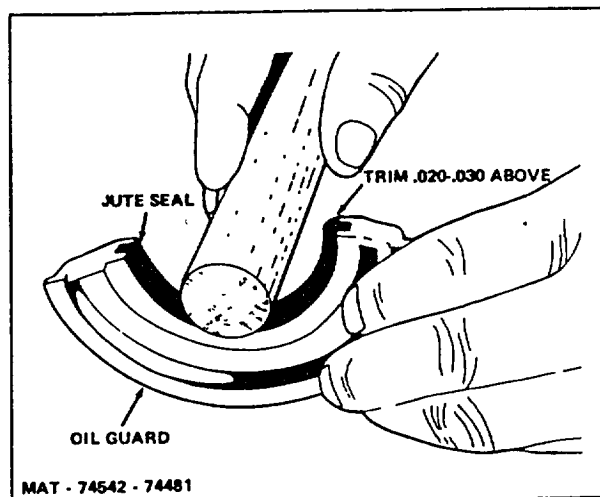

Figure 71. Installing Jute Seal in Oil Guard
2. Install jute seals on the oil guard and the rear filler block. Refer to Figures 71 and 72.